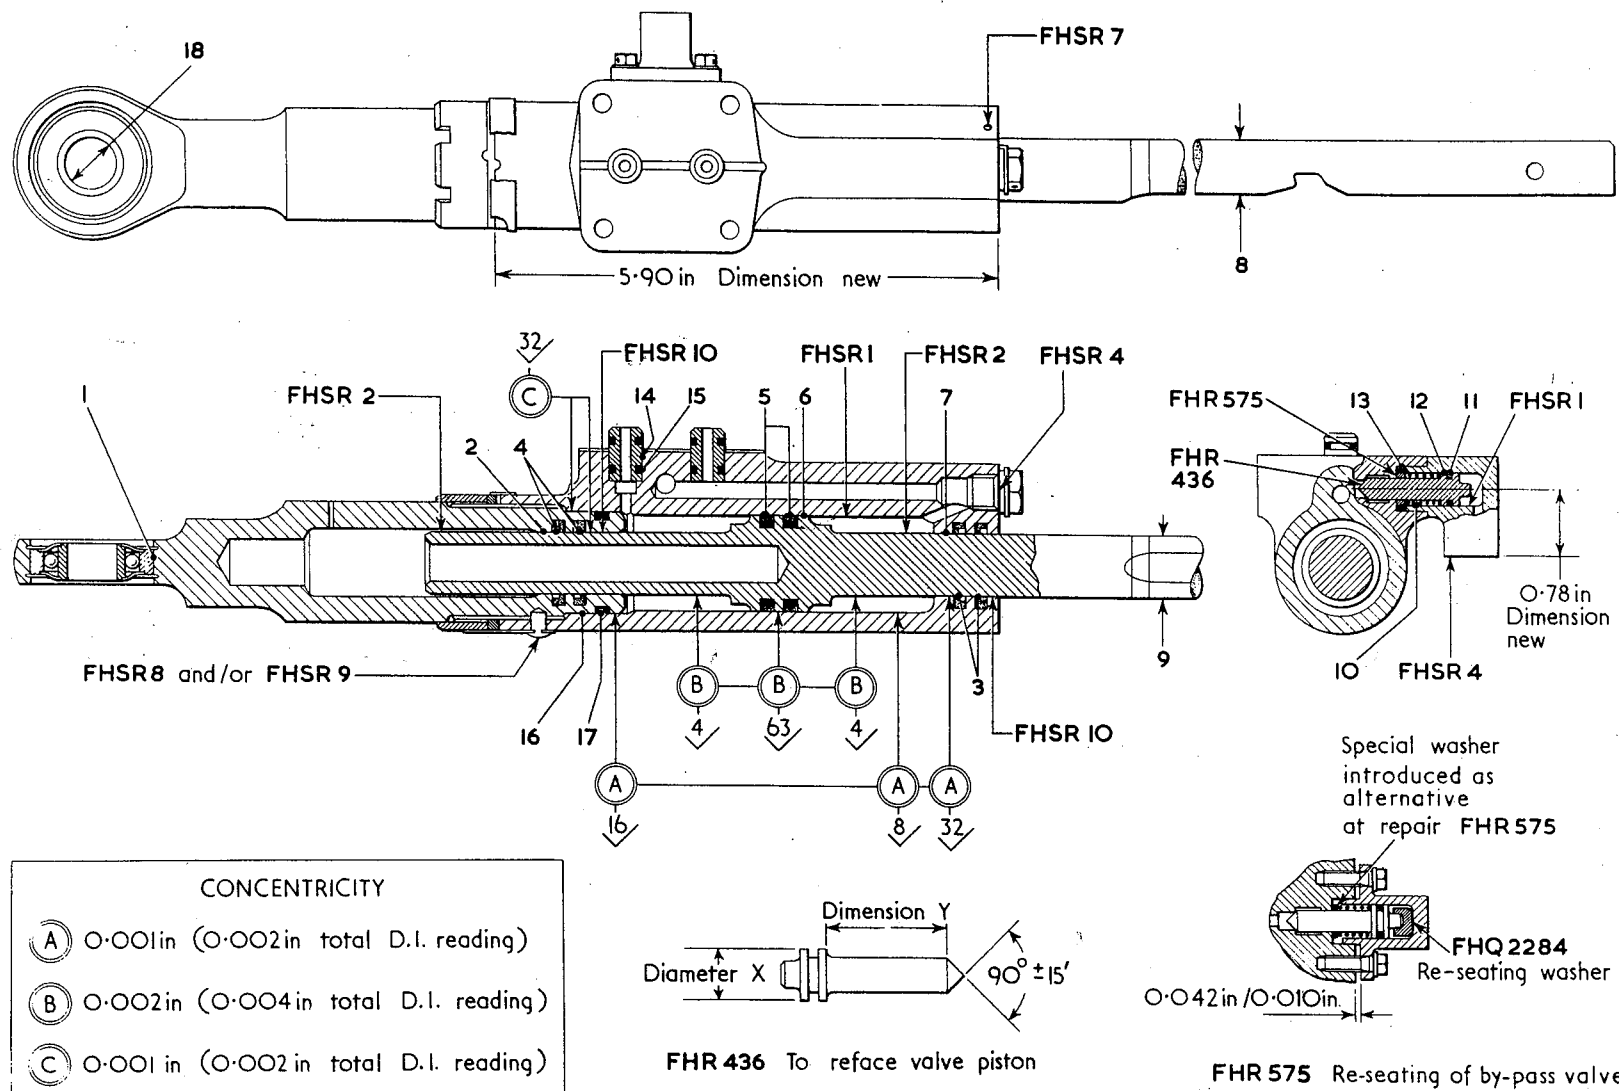

Fig. 1 Key diagram
1. The exact points of application for the following Fairey Hydraulic Repairs (FHR) and for Fairey Hydraulic Standard Repairs (FHSR) are indicated in Figure 1. The FHSR's and general repair instructions are described in full in A.P.105D-0002-1.
2. The valve piston conical surface may be refaced to a finish of 32 micro-inches, or better. Concentricity to diameter X (fig. 1) must be maintained at 0.001 in (0.002 in total D.I. reading) and after refacing dimension Y must not be less than 0.865 in. On assembly lightly seat the piston in the jack body by the method detailed in A.P.105D-1305-1. Where the clearance between the housing and the jack body (fig. 1) is below the minimum requirement, repair scheme FHR 575 (para. 3) must be incorporated.
3. When the assembly clearance between housing and jack body, with re-seating washer FHQ 2284 in position and the housing securing bolts screwed down finger tight only, is below the minimum requirement (A.P.105D-1305-1), this scheme allows a lower tolerance as indicated (fig. 1). A further special washer, FHSO 101, which is 0.050-0.055 in thick, is introduced and may be used, if necessary, to meet testing requirements. (See A.P.105D-1305-1 - By-pass valve alternative washers and springs).